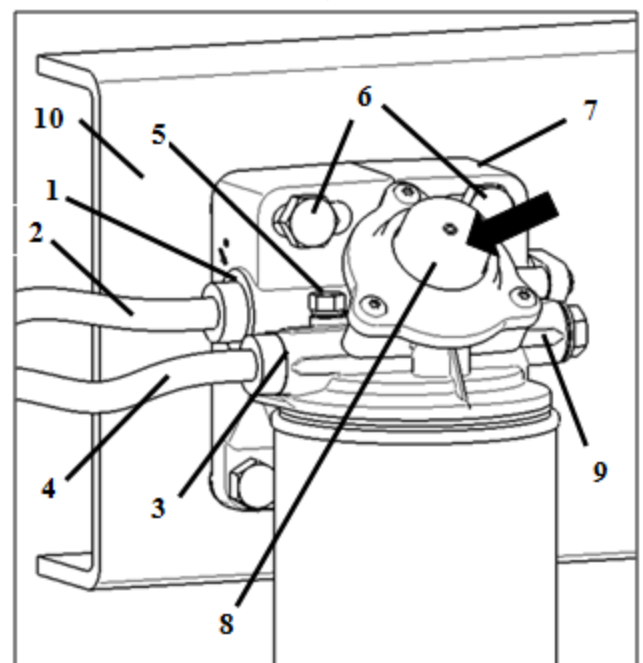

Fig. 3 Assembly
- Select a suitable point on the vehicle frame (Pos.10, Fig. 3) (observe the information in Chapter 4.1).
- Fix the mounting flange (Pos.7, Fig. 3) to the frame (Pos.10, Fig. 3) with two bolts (Pos.6, Fig. 3; M 12 - 8.8) and washers (12.5 - ISO 7090) ($M_a = 60 +5$ Nm).
- Remove the covering caps from the inlet (Pos. 1, Fig. 3) and outlet (Pos. 3, Fig. 3).
- Connect the fuel lines (Pos.2 and 4, Fig. 3) at inlet (Pos.1, Fig. 3, thread M18 x 1.5) and outlet (Pos. 3 or 9, Fig. 3, thread M18 x 1.5).
- Ensure that the water drain plug is closed (also refer to Fig. 3).
- Screw the bleed plug a/f 12 (Pos.5, Fig. 3) open.
- Operate the hand pump (Pos. 8, Fig. 3) to draw fuel.